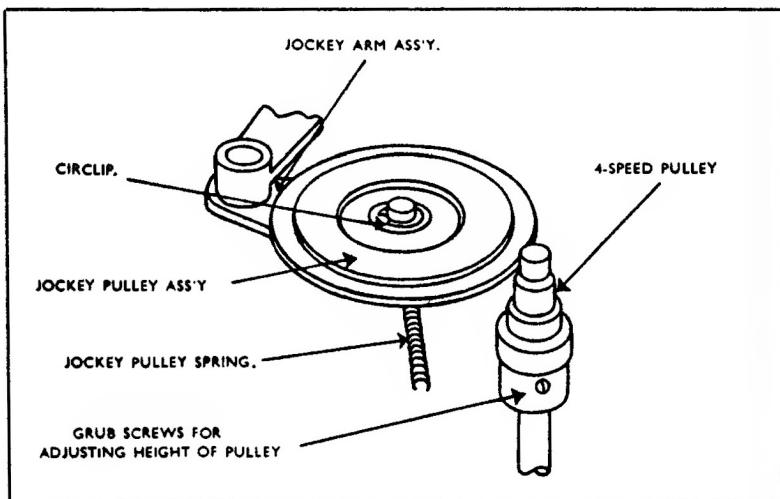

FIGURE 2.
- (1) Set the four speed knob at the 16-2/3 RPM position.
- (2) Slacken setscrews on the 4-speed pulley (Item 8M94) and adjust until the jockey pulley (Item 8M32) is engaged on the smallest pulley diameter just clear of the top step (see Figure 2).
- (3) Tighten setscrews.
(2) Motor defective	(a) Remove the turntable and allow the motor to operate without load. If motor spindle is not rotating and voltage is reaching the motor, the motor is faulty. Repair or replace. (b) Check that the 4-speed pulley (Figure 2) is not loose on motor spindle. If loose adjust as under "Adjustments of Speed Change".
(3) Jockey pulley not engaging turntable rim.	(a) Check that the jockey pulley is free to pivot. (b) Check that the jockey pulley spring is correctly positioned (see Figure 2).